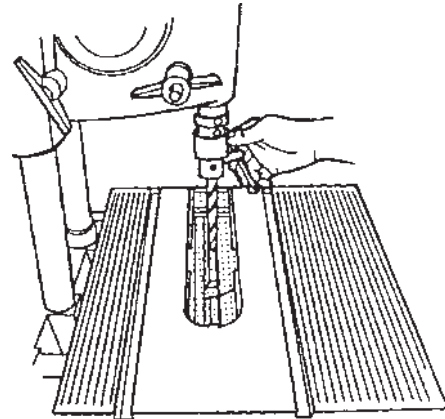

Figure B-53
11. Install a 3/8" or 1/2" straight drill bit in the drill chuck and use the chuck key to lock it place. See Figure B-53.